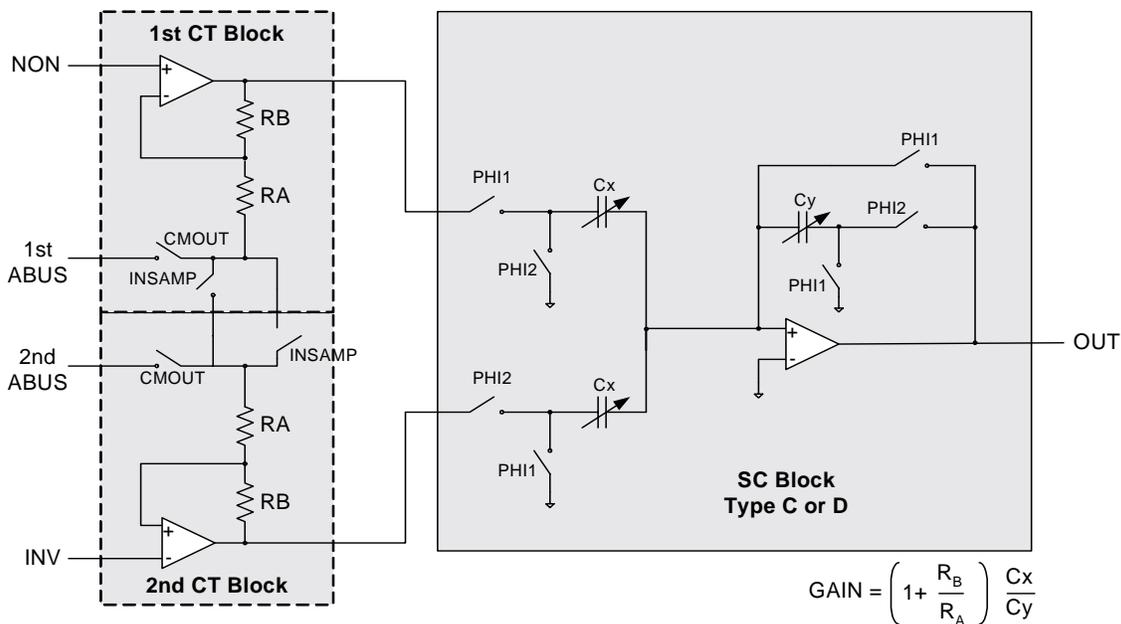

Figure 23-3. 3-Opamp Instrumentation Amplifier
Two continuous time blocks and one switched capacitor block combine to make a 3-opamp instrumentation amplifier (see Figure 23-3).
**Bit 1: INSAMP.** This bit is used to connect the resistors of two continuous time blocks as part of a 3-opamp instrumentation amplifier. The INSAMP bit must be high for the 3-opamp instrumentation amplifier (see Figure 23-3).